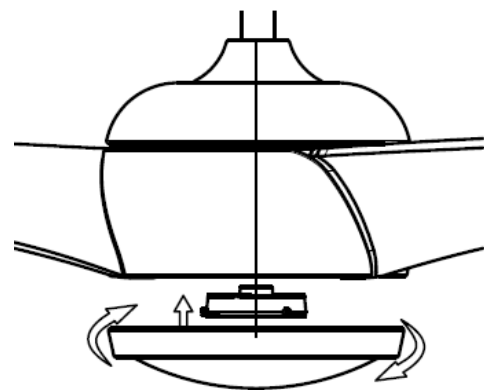

Fig. 9
- Finally, install the bottom cover to the lamp bracket by rotating it clock wise. Fig.9